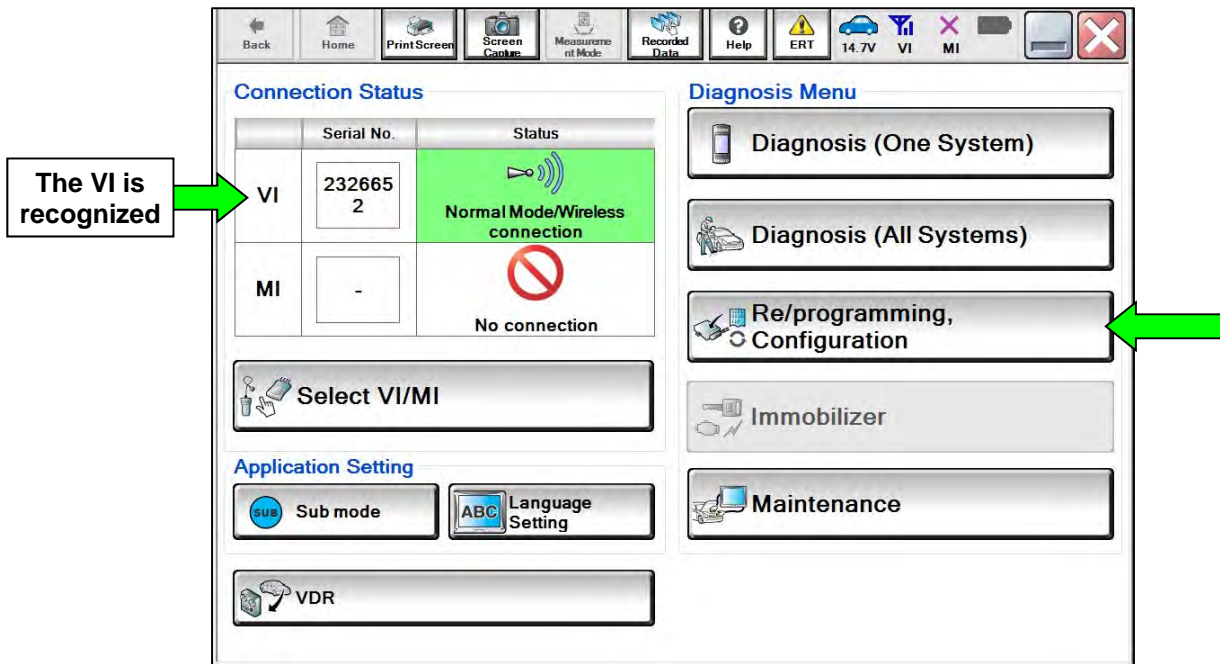

Figure 2
6. Connect the Vehicle Interface (VI) to the vehicle.
- The serial number will display when the VI is recognized (Figure 2 on page 4).